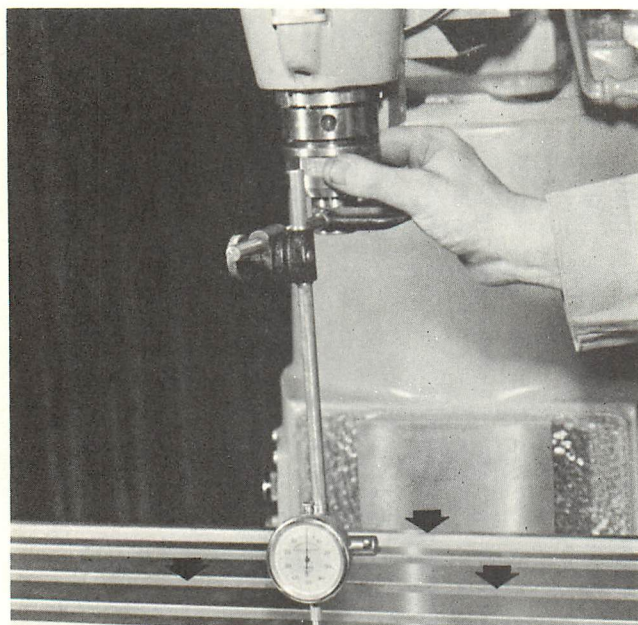

FIGURE 16A
3. After assembling, the spindle alignment with table should be checked. [See Figure 16A.] Trammig readings on a 10" diameter circle should be 0.000" at both sides and rear, but 0.001" at front. If readings are not 0.000" at